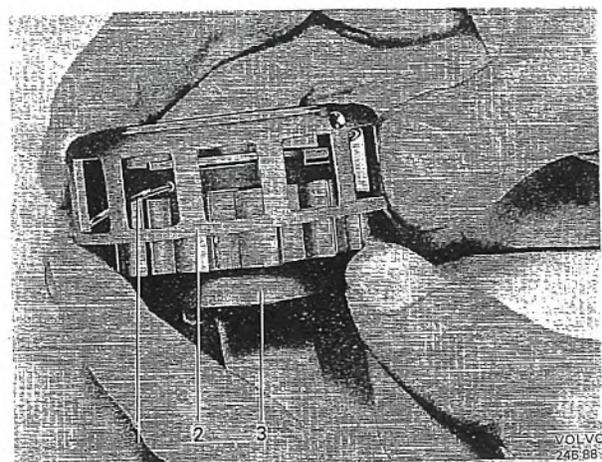
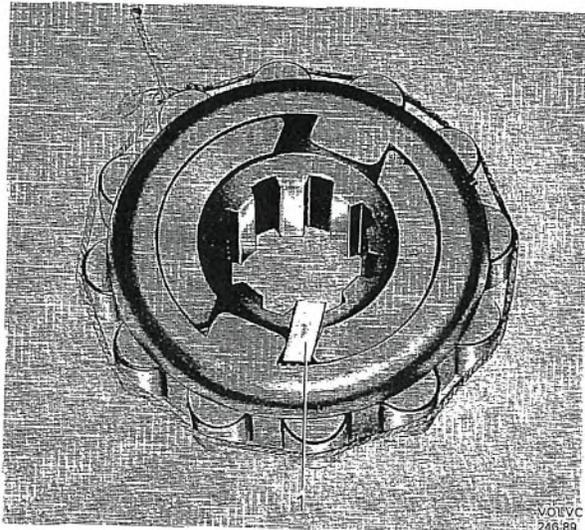

Fig. 4-44. Assembling uni-directional clutch, I
Fig. 4-45. Assembling uni-directional clutch, II
5. Assemble the uni-directional clutch, spring and roller cage, see Fig. 4-44. Turn the roller cage clockwise as far as it will go and lock it in this position with a key as shown in Fig. 4-45. Place in the rollers. Tie a piece of rubber band or string round the rollers.